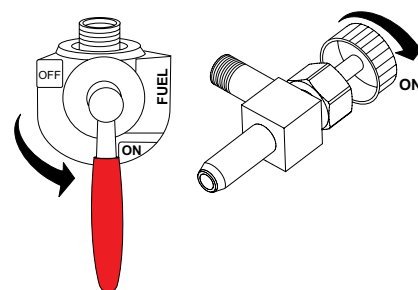

Figure 12. Fuel Tank ON/OFF Valve (ON)
- Place the fuel tank ON/OFF valve (Figure 12) in the **ON** position.